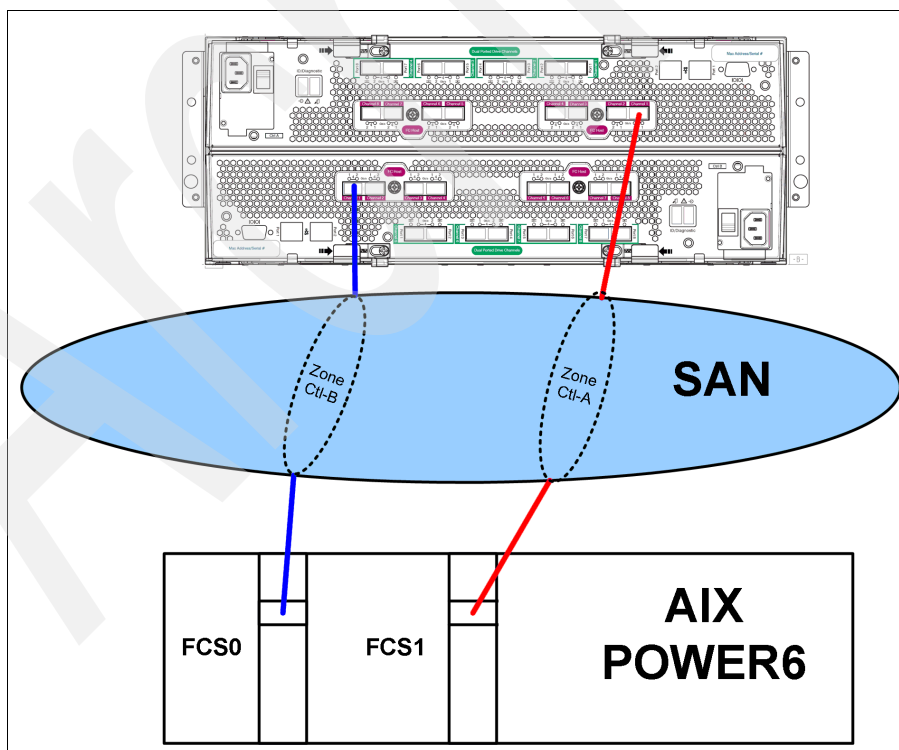
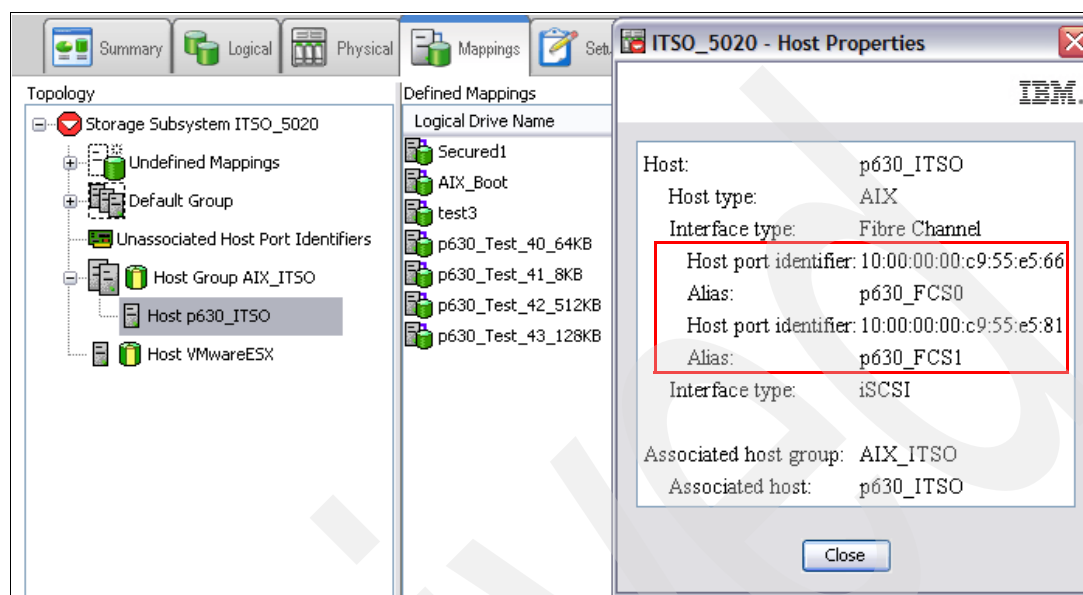

Figure 12-3 Two HBA attachment with zones to the AIX host
Figure 12-7 Two HBAs on a single AIX host
The AIX host must be able to communicate with both DS5000 controllers. Figure 12-3 shows a dual HBA system where each HBA is zoned to a DS5000 controller. This configuration is preferred where the AIX initiators are isolated from each other. In the example the SAN fabric can be deemed as a single point of failure but where possible the HBAs and controllers must be on separate SAN switches or fabrics.
After the zoning has been configured on the SAN switch as shown in Figure 12-3, the HBA worldwide names (WWN) must be visible to the DS5000 by each controller. To check this on the DS5000, select from the main Storage Manager (SM) window, **Mappings** → **View Unassociated Host Port Identifiers**. You must be able to see the WWN of the HBAs which can be verified for each HBA from the AIX command prompt with command:
This configuration, which is the most common, is shown in Figure 12-7. For the situation where an HBA is zoned to a DS5000 controller, see Figure 12-3 on page 541.
Two HBAs connecting to both controllers on DS5000 with appropriate zoning are *supported* (Figure 12-7 on page 544). In this configuration, create a zone to include the first host HBA to the DS5000 controller A and another zone with second host HBA and DS5000 controller B.